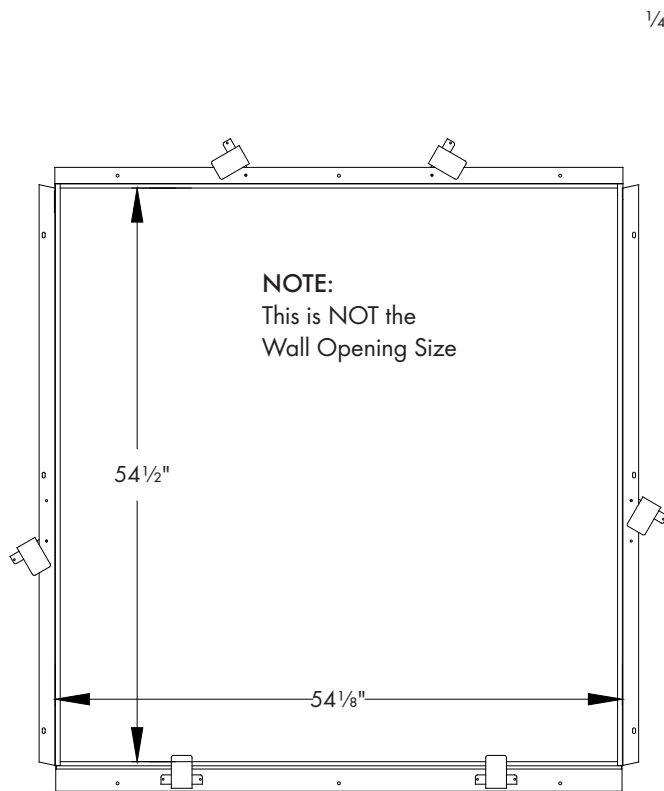
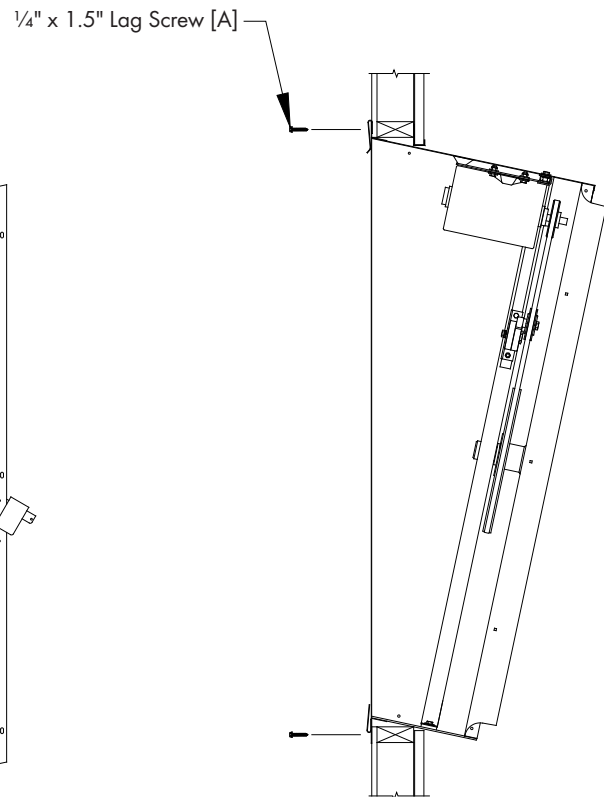

Figure 4A
Figure 4B
Confirm that housing inside dimensions match those shown in Figure 4A. Then secure housing to wall using (12) Lag Screws [F], through holes in each mounting flange. See Figure 4B.